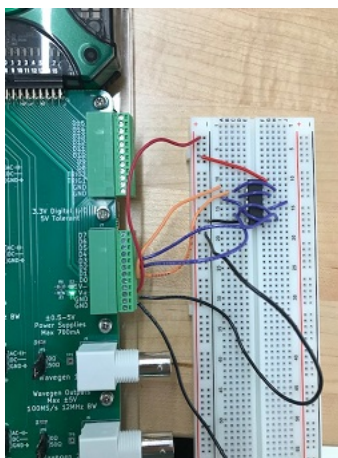

Figure 11: D-latch setup on breadboard
- The finished wiring job can be seen in Figure 11.